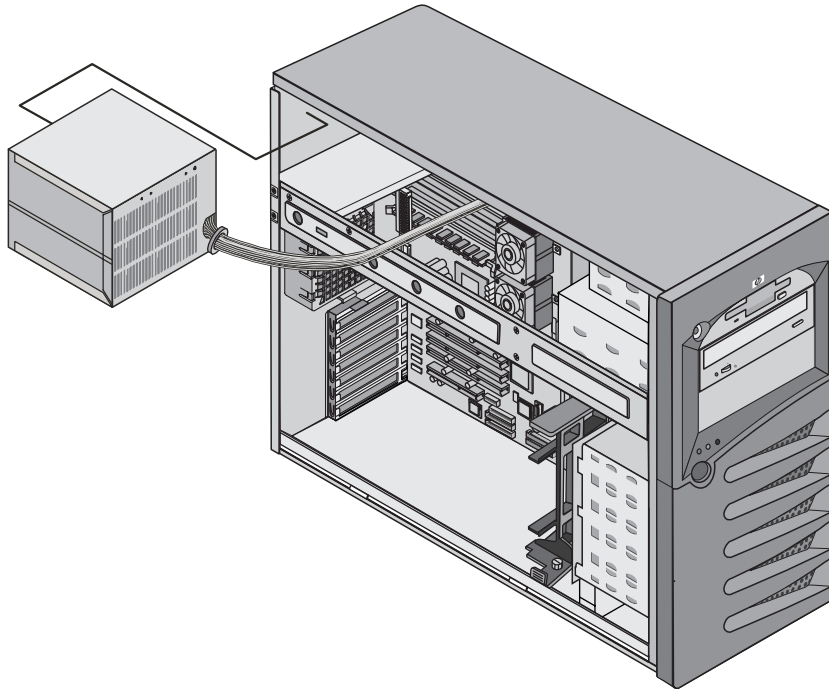

Figure 5-2: Removing power supply
9. Remove the four screws securing the power supply to the chassis. These are located at the rear of the chassis. Refer to Figure 5-2.